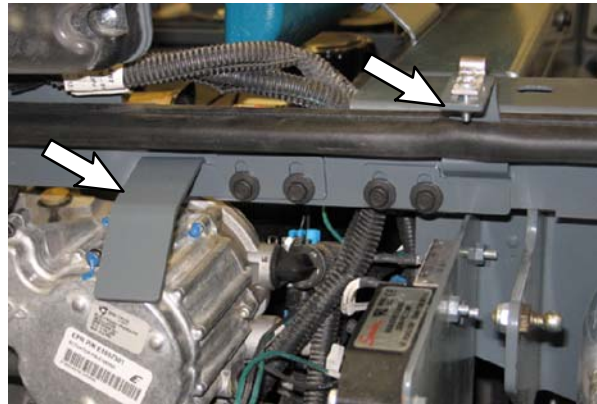

FIG. 73
88. Cut a slit into the 1650 mm (65 in) seal (103) where the shroud latch bracket (34) is going to be installed onto the machine in the following step. (Fig. 73)
89. Use two SEMS hex screws (11) and two flange hex nuts (13) to install the upper rear shroud support bracket (35) and the shroud latch bracket (34) onto the rear shroud support bracket (36). (Fig. 73)